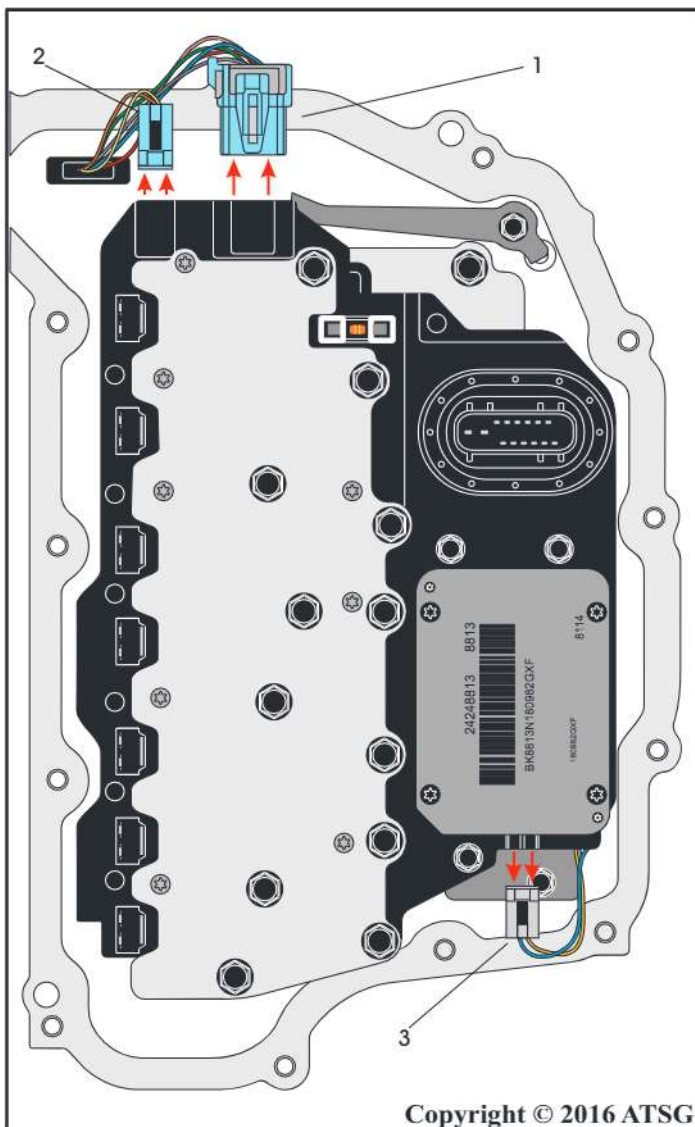

Figure 52
14. Disconnect the Shaft Position Switch connector (1) as shown in Figure 52.
15. Disconnect the Output Speed Sensor connector (2) as shown in Figure 52.
16. Disconnect the Input Speed Sensor connector (3) as shown in Figure 52.